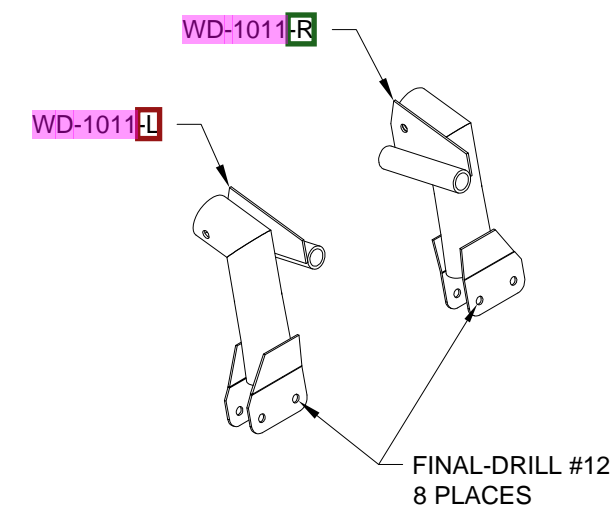

FIGURE 3: FINAL-DRILL CONTROL STICK BASES
Step 3: Final-Drill the WD-1011-L Left Control Stick Base and the WD-1011-R Right Control Stick Base as shown in Figure 3.